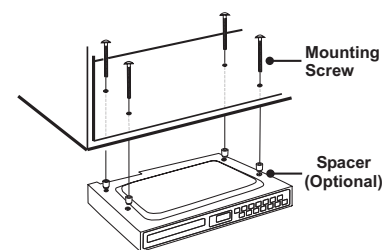

Figure 5
c) Insert the four selected screws through each hole from the inside of the cabinet going down (see Figure 5).